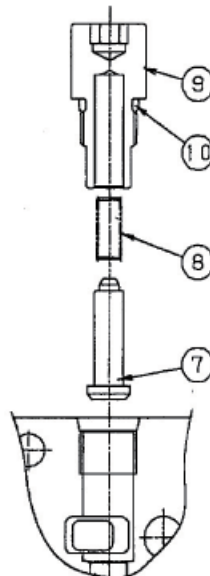

Figure 15. Check valve
- ③ Check that O-ring (10) is securely installed with check valve plug (9) and then screw it into the part where check valve has been assembled.
- ④ Fasten check valve plug (9) with specified torque with 8 mm hexagonal wrench.
- The other check valves can be assembled in the same manner, use suitable parts in the drawing. (see figure 15 and 16)